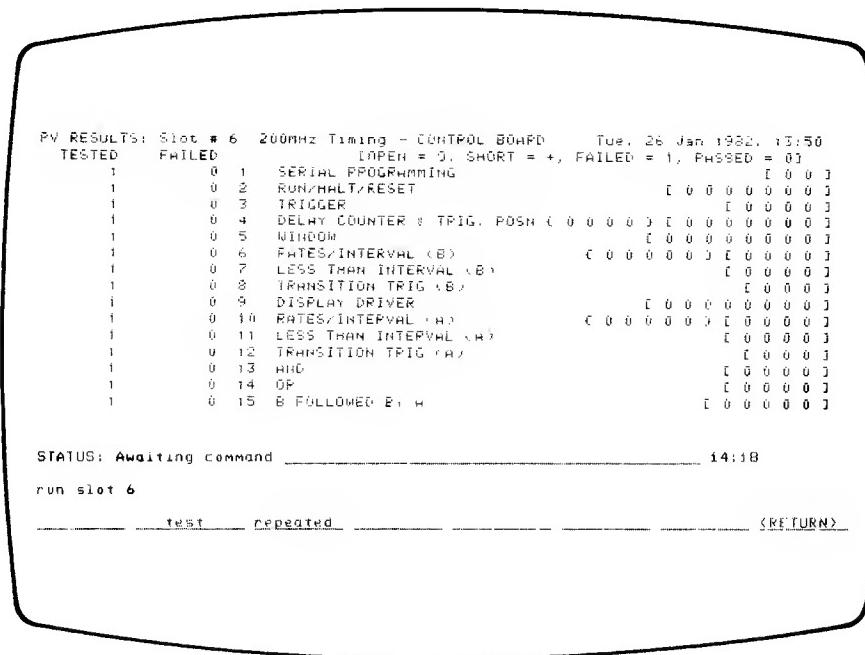

Figure 4-1. PV Test Display (16-channel system).
4-19. To verify that the entire board is operating correctly, perform the following steps on the mainframe keyboard: (FIGURE 4-1)
- h. Press [RETURN]. As shown in Figure 4-1, the screen will now show all 15 Control Board PV tests. Tests that pass will be indicated by "0", and failures will be indicated by "1". The screen will also show the number of times the tests are run, and the number of failures.